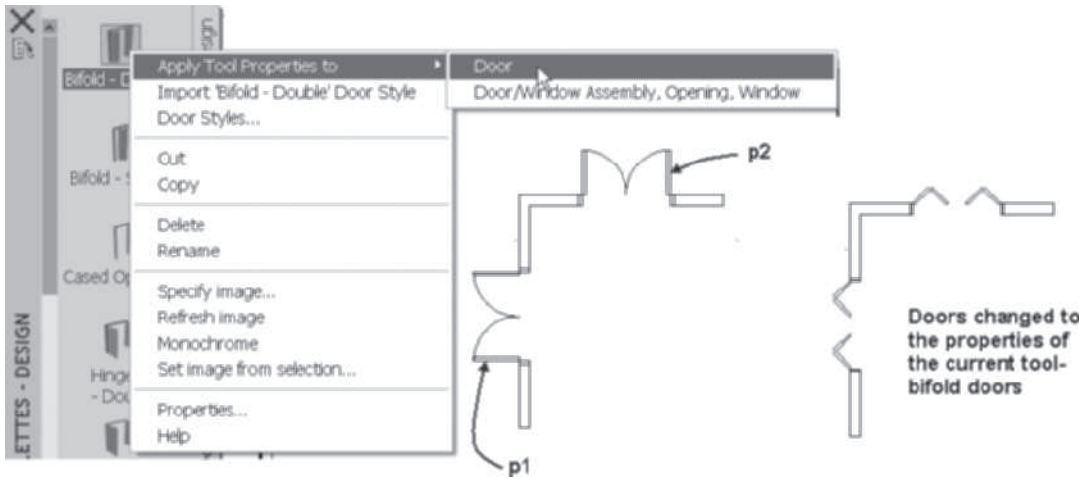

FIGURE 5.55 Apply Tool Properties to command
The Existing doors, windows, and openings can be changed to the settings of the current tool with the **Apply Tool Properties to** command. When a tool of the tool palette is highlighted, right-click and choose **Apply Tool Properties to > Door** as shown in Figure 5.55. The **Apply Tool Properties to** command will prompt you to select objects for edit. The objects selected are changed to the current tool; you can edit the Properties palette for additional size editing. An application of the **Apply Tool Properties to** command is shown in the following steps. The Apply Tool Properties option of the Opening tool allows you to convert doors, door/window assembly, and windows to an opening. The Apply Tool Properties command allows you to change doors to windows.
1. Select a tool, such as **Bifold-Double** tool, from the **Doors** tool palette, right-click, and choose **Apply Tool Properties to > Door** from the shortcut menu as shown in Figure 5.55. The **Apply Tool Properties to Door** command allows you to change doors to windows.
Select Door(s): 1 found (Select a door at p1 as shown in Figure 5.55.)
Select Door(s): 1 found, 2 total (Select a door at p2 as shown in Figure 5.55.)